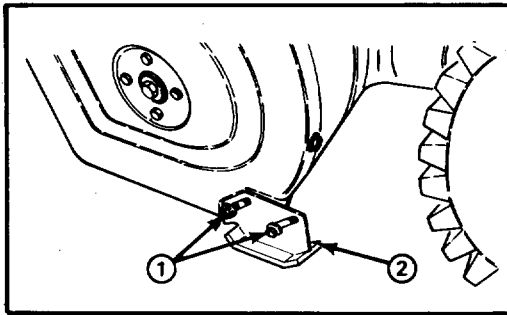

Figure 18
ADJUSTING SKIDS (Fig. 18)
2. Loosen the (4) flange bolts securing both skids to the auger side plates (Fig. 18).